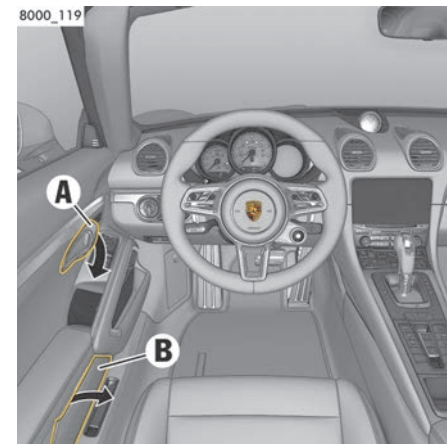

Fig. 46: Opening doors from the inside
▶ Pull door opener **A** (Fig. 46).